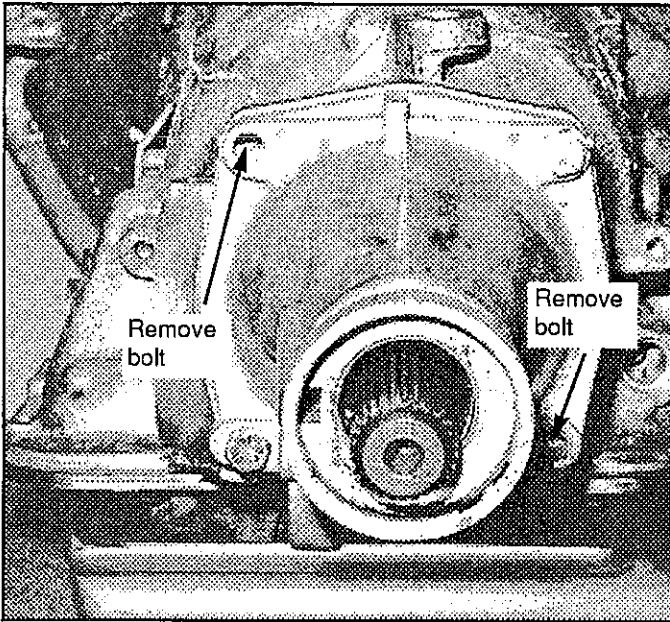
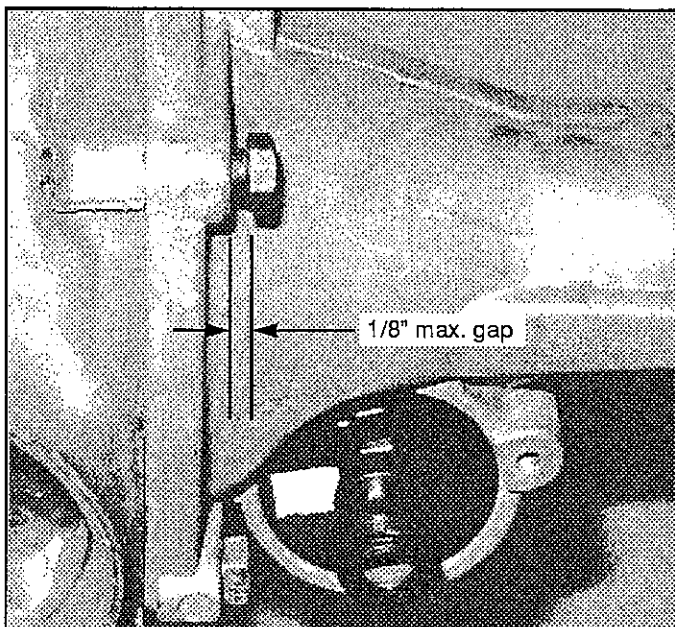
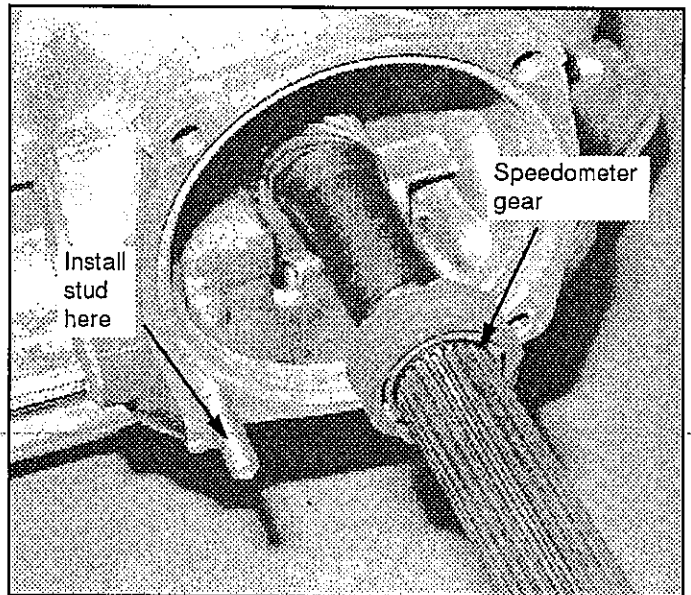
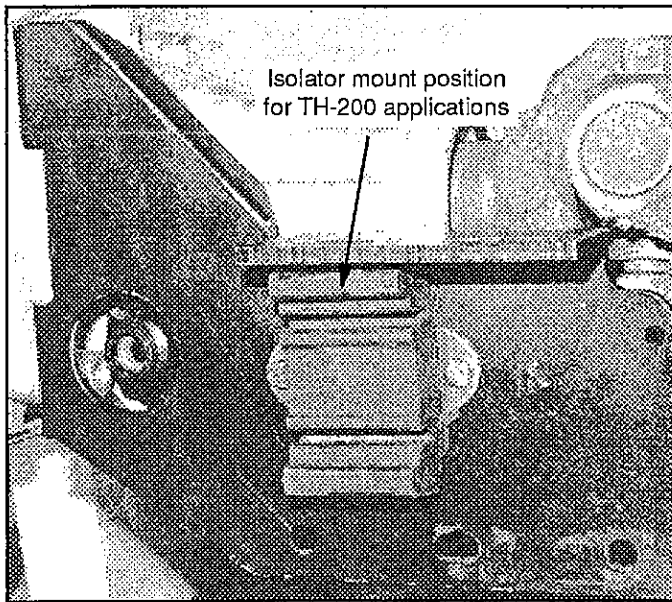

Figure 2
Figure 3
Figure 4
Figure 5
STEP 7. Torque arm inner bracket installation. Remove two extension housing bolts shown in Fig. 2. Install two (2) 3/8"-16 x 1 5/8" bolts where shown as a check to see if the bolts bottom out before the head makes contact. The objective is to obtain a gap between the bolt's head and extension housing of 1/8" or less (Fig. 3), this will insure maximum thread engagement when the inner torque arm bracket is installed. If necessary, tap the case threads deeper with a 3/8"-16 tap rather than shortening the bolts. Remove extension housing (This is a good time to swap speedometer gears if you have not already done so), and thread the short threaded end of supplied stud in lower left hand case hole (See Fig. 4). Use two nuts wrenched together on opposite end of stud to drive stud in. Install the B&M inner torque arm bracket as shown (Fig. 5 or
A. TH-200 Applications. Remove the insulator mount from inner torque arm support bracket and attach it to the B&M torque arm bracket in the position shown in Fig. 5. You will reuse the stock outer bracket and isolator.